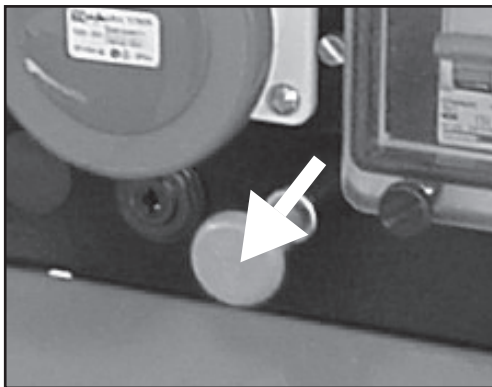

Fig.8
- 3) P9000 – WP230 models: Pull the knob placed on the control panel (see fig. 8). Wait until the engine is completely off. Turn the key to the "OFF" position.